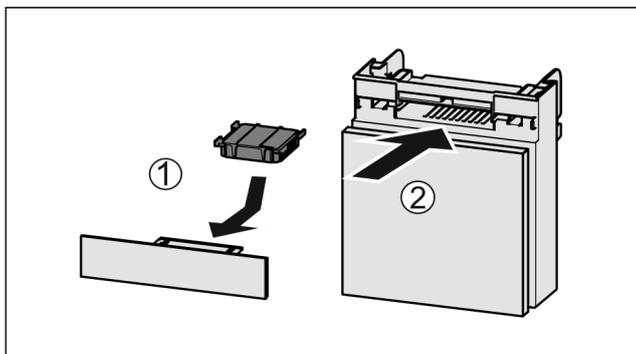

Fig. 138
- ▶ Insert the carbon filter as shown in the diagram Fig. 138 (1).
- ▶ Push the compartment in Fig. 138 (2).